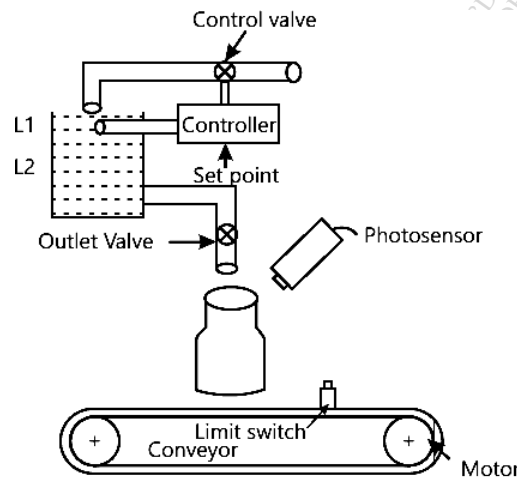

Figure. 1
- Delay A+ B+ (AB) -
- Q4 a. A process control system illustrated in figure 1 is desired to fill the bottle and convey this. The outlet valve is opened to fill the bottle as when the limit switch senses the presence of bottle and is closed automatically when the photo sensor produces the signal as when the bottle is filled. The level of water in tank is maintained through a control valve. Develop a PLC ladder logic diagram for this control application. **10**